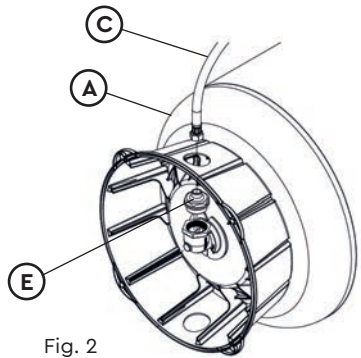

Fig. 2
- ⌘ Screw one end of the long flexible hose (item C) to the smaller threaded end of the pressure vessel adaptor and tighten for a leak tight seal (Do not over tighten) (see Fig. 2).